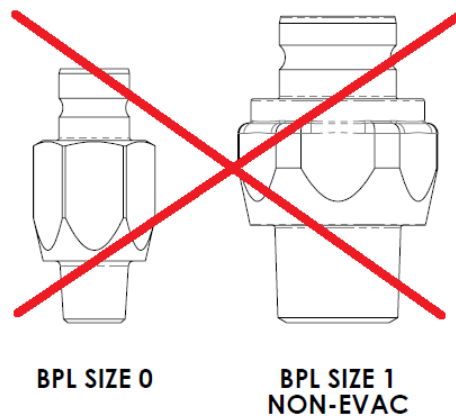

Figure 1 – NON-COMPATIBLE BPL receivers
- Banlaw Size 0 BPL receiver range– see Figure 1.
- Banlaw Size 1 Non-Evac receivers (Banlaw Part Nos. BPLR1AN and BPLR1BN) – see Figure 1.